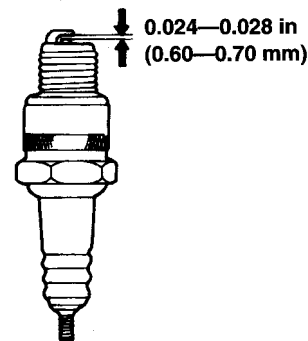

Figure 20. Spark Plug Gap
5. Set the spark plug gap (Figure 20) using a suitable gauge. The gap should be between 0.024-0.028 inch (0.60-0.70 mm).